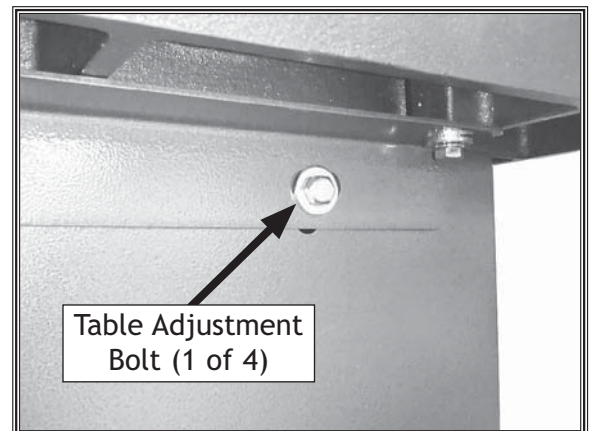

Figure 58. Table adjusting bolt (1 of 4).
- a. Loosen the four table adjustment bolts (see Figure 58) enough so that the table can be adjusted.